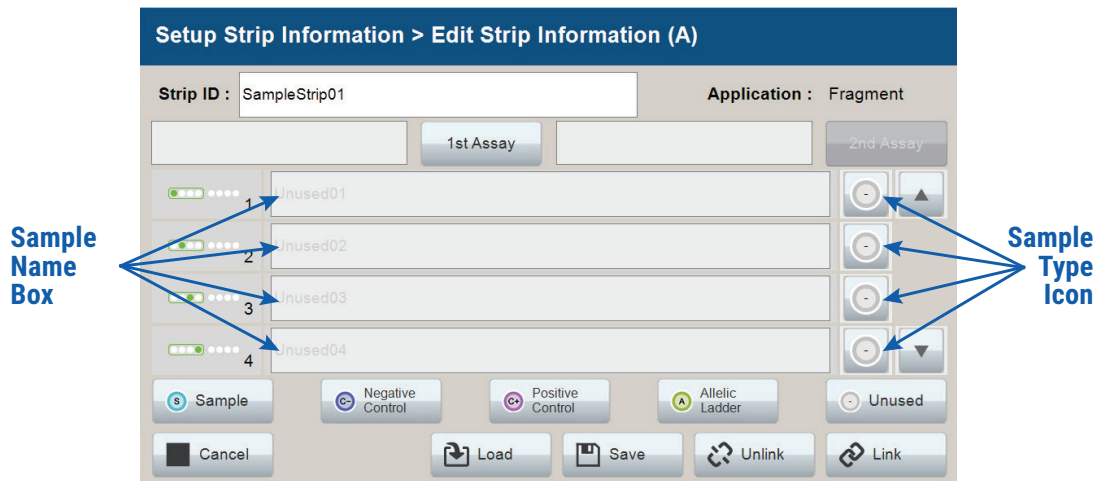
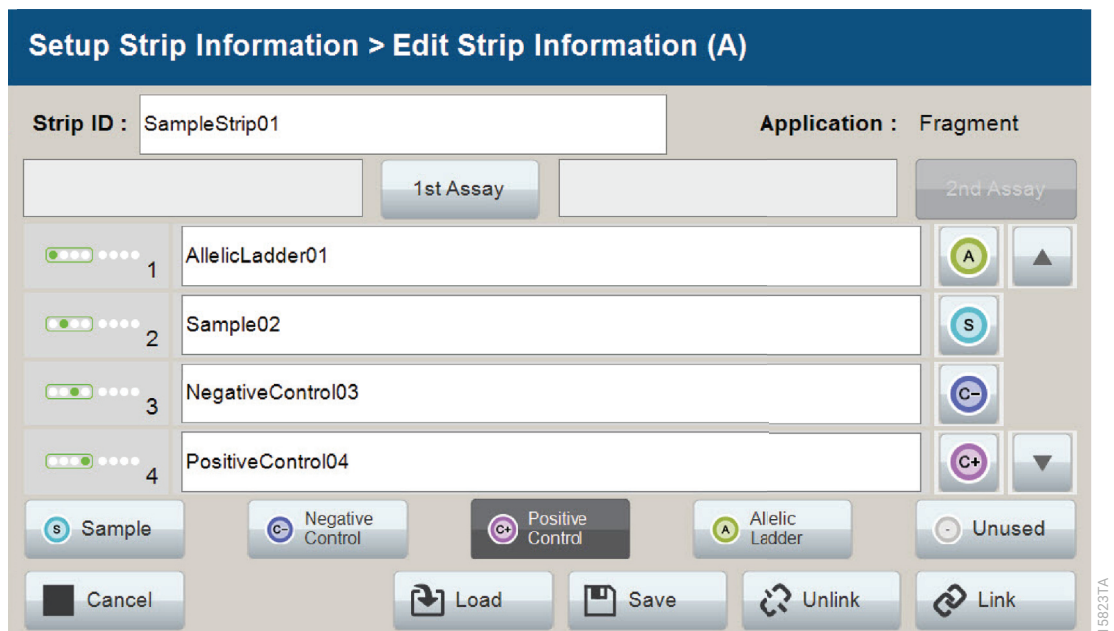
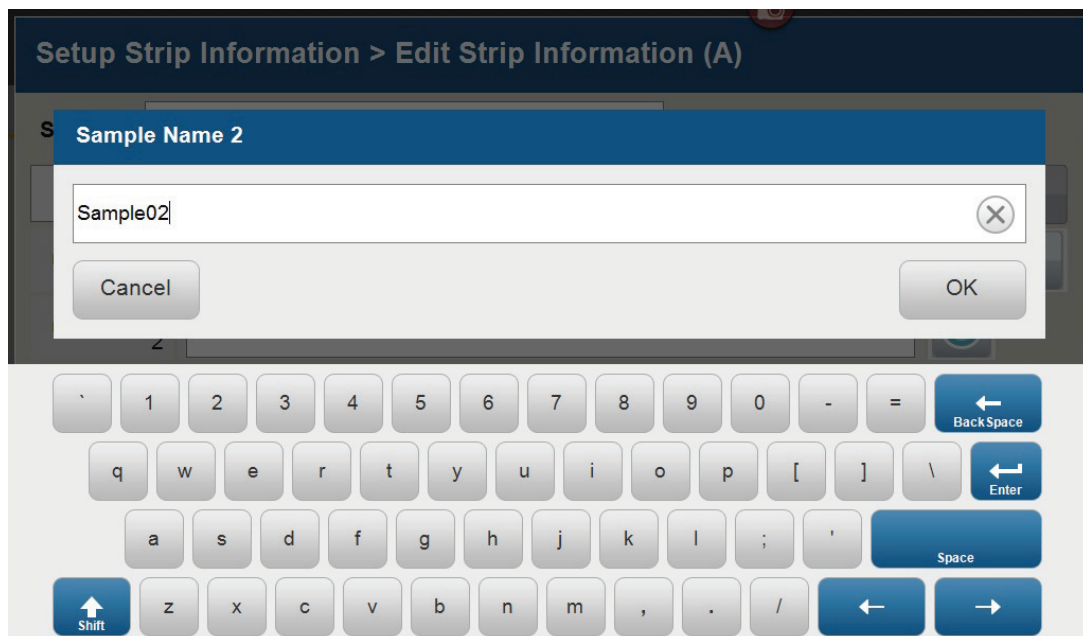
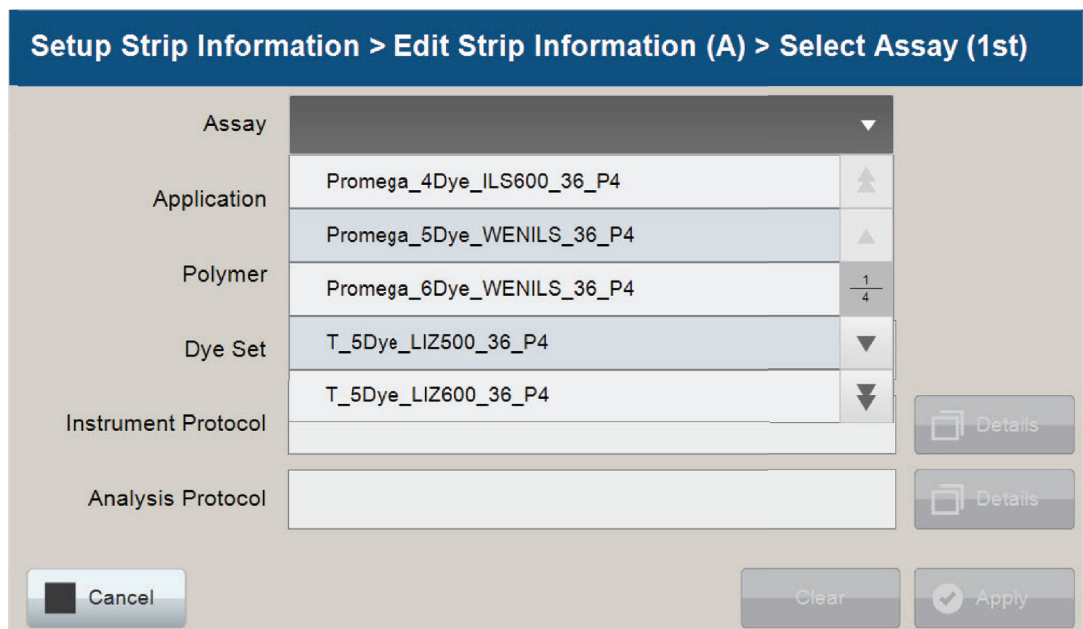

Figure 12. Sample Type and Sample Name on 'Edit Strip Information' screen.
Figure 13. Sample Name Entry on 'Edit Strip Information' screen.
Figure 14. 'Set Sample Name' window.
Figure 15. 'Select Assay' window.
4. Select a sample type on the 'Edit Strip Information' screen (Figure 12). Sample types must be selected for each well position before the Sample Name box becomes active for entry of sample name. Sample types are as follows.
5. To assign a sample type to a well, select the appropriate sample type along the bottom of the 'Edit Strip Information' screen (Figure 12), and then select the **Sample Type** icon to the right of the sample name field for the desired well. This icon will then display the sample type selected for that well (Figure 13).
6. Enter a sample name for each well position by selecting the Sample Name box adjacent to the well number on the 'Edit Strip Information' screen (Figure 13). This opens the 'Set Sample Name' window and a keypad will become active on the touch screen (Figure 14). Alternatively, the Sample Name can be entered using a traditional keyboard if one is connected to the Spectrum Compact CE System. Enter the appropriate sample name, and then select **OK** to exit and return to the 'Edit Strip Information' screen.
- The Spectrum Compact Control Software includes preloaded run assays for use with chemistries available from Promega. Refer to the *Spectrum Compact CE System Operating Manual* #TMD058 for information on creating or modifying assays. To assign a run assay to an injection set, select **1st Assay** on the right side of the 1st Assay field (Figure 13). This opens the 'Select Assay' window (Figure 15). Select "Promega_5Dye_WENILS_36_P4" from the drop-down list (Figure 15) and then select **Apply**.